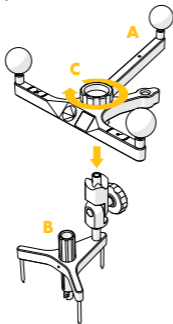

Figure 3
4.1.2. Attaching the tracker to the Universal Base Skull (Figure 3)